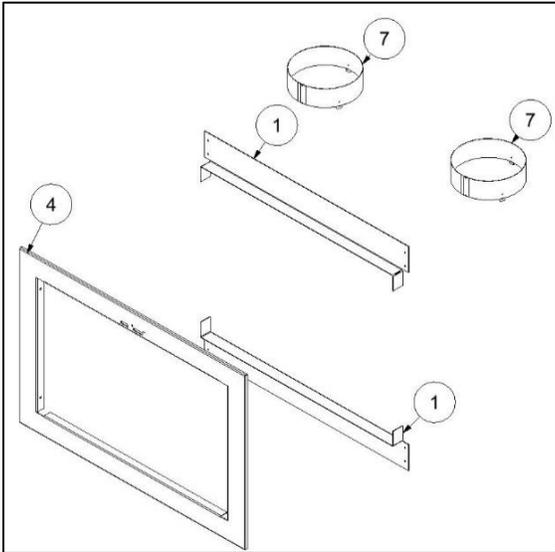
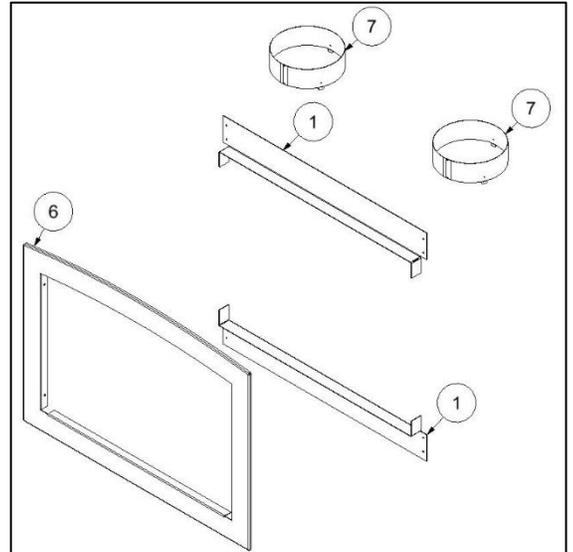
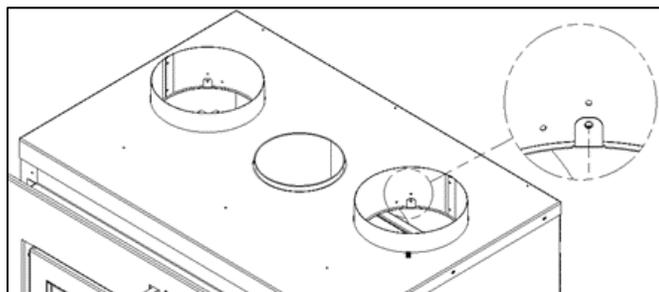
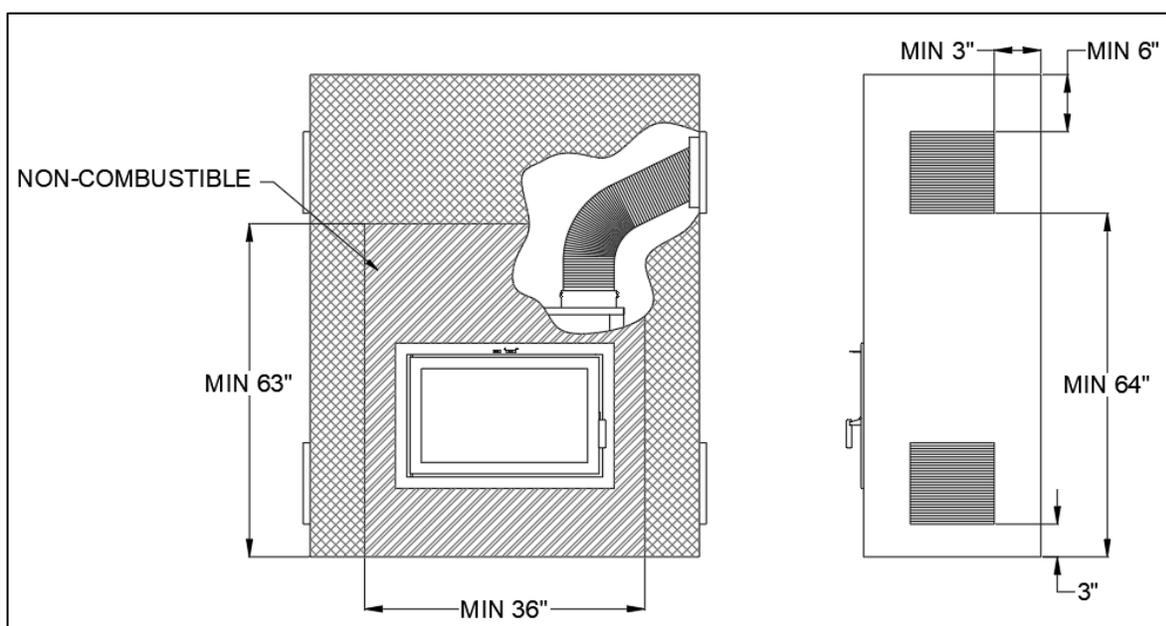

Figure 3-16: Clean Face Rectangular Surround Components
Figure 3-17: Clean Face Arched Surround Components
Figure 3-20: Tabs Inside the 8 Inch Knockouts
Figure 3-27: Clean Face Chase
The Clean Face surround comprises no louvers; however, an intake into the chase and an outtake through gravity ducts is required for this configuration. The instructions below describe the installation of the Clean Face surround. Refer to Figures 3-16 and 3-17 and Tables 3-4 and 3-5 for the instructions below. Refer to Section 3.4 for Gravity Kit installation instructions.
4. Place the surround (Item 4 in Figure 3-16 or Item 6 in Figure 3-17) within the door holder and secure it in place with 4 black screws (one on each corner). Make sure that the handles of the Combustion Air Control pass through the slots of the surround.
4. Install the 8 inch duct adapters (Item 7 in Figures 3-16 and 3-17) through the newly cut knockouts and screw them to the bent tabs (Figure 3-20).
5. Determine the two locations of the air intakes on the chase and cut a rectangular opening 10.5" (W) X 9.5" (H). Note that a distance of 3" is required from the floor.
6. Determine the two locations of the air outtakes on the chase and cut a rectangular opening 10.5" (W) X 9.5" (H). Note that a minimum distance of 64" is required from the floor and a minimum of 6" is required from the ceiling (Figure 3-27). Please note that the air outtake grilles can be installed in the same room or in different rooms from each other. If the grilles are installed at different heights, more heat will be distributed to the highest one.
- Refer to Figure 3-27 for clearances to combustibles.
For the Clean Face surround option, two intake and two outtake openings must be constructed onto the chase. Refer to Figure 3-27 for minimum clearances.